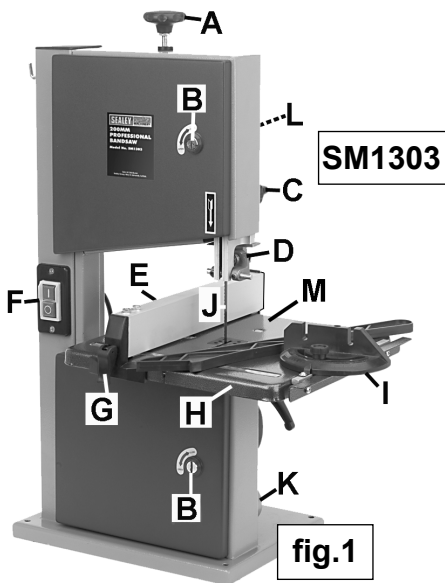

fig.1
SM1303: Carefully place worktable (fig.1.M) onto its supporting base, whilst sliding saw blade through its slot. Fix to base with three bolts, nuts and washers. Before finally tightening these, check that the table blade slot and sawblade are in line, set correctly and then tighten all fixings. Using a square backed up to the saw blade, check that the worktable is square to the saw blade, if any adjustment is needed slacken the two knobs underneath the worktable near the angle scale, set table to correct angle, tighten the two knobs and then adjust the nut and bolt underneath the rear of worktable so that the worktable is just resting on the bolt head. Secure bracket across the saw blade slot using two bolts and two plastic knobs.
3.1.2. Fit the fence (fig.1 & 3.E) by sliding onto the worktable from either the front or the back as required. Push down handle (fig.1 & 3.G) to lock when fence is in required position.
- 4.1.1. Turn the blade cover locks (fig.1 & 3.B) to open the upper and lower blade covers.
- 4.1.2. Turn blade tension adjustment knob anticlockwise (fig.1 & 3.A) to slacken the blade.
- 4.2.2. Turn the blade tension knob (fig.1 & 3.A) to adjust the blade tension - clockwise to tighten, anticlockwise to slacken. Correct tension is reached when the blade gives slightly to firm finger pressure at mid-span. Do not over-tighten.
- 4.7.1. The mitre gauge (fig.1.I), fits in the slot at the front of the work table, it is adjustable through 45° in either direction. Loosen the central locking knob, adjust and then tighten locking knob.
- 4.9.1. The fence (fig.1.E) is mounted on the table side guide (fig.1.H).
- 4.9.2. To reposition or remove the fence, push up locking handle (fig.1.G). To refit the fence, slide onto work table from the front or back as required. Push down handle (fig.1.G) to lock when fence is in required position.
Adjust blade guide (fig.1 & 3.C) to just above the workpiece (3mm). Use both hands to feed workpiece to the blade. Use a steady even pressure sufficient to keep blade cutting but no more. If needed, stop the saw and wait for blade to completely stop before backing blade out of a cut.